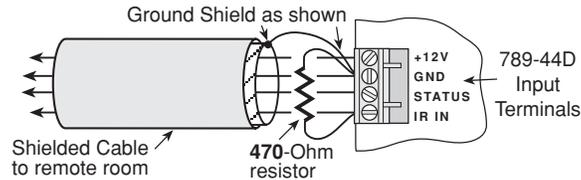

Fig. 4 470-Ohm Capacitance Discharge Resistor
- **Inputs:** 1 - Screw-type, 4-terminal plug-in. 1 - IR RCVR, 3.5mm stereo mini jack. (See **Caution Note**, **Fig. 4**).
When using long lengths (> 50 feet) of inter-room shielded cable in your installation, it may be necessary to connect a 470-Ohm 1/8-Watt resistor between **IR IN** and **GND** at the 4-terminal connector of the 789-44D. Refer to **Fig. 4**.